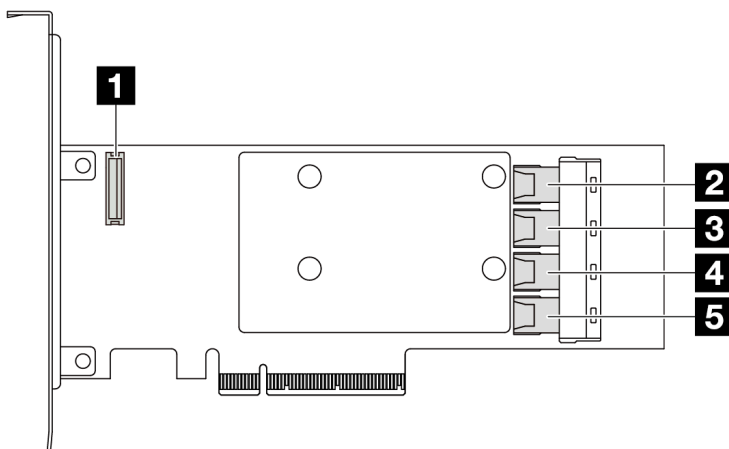

Figure 317. A Gen 3 16i SFF RAID/HBA adapter (four port connectors)
- Figure 317 “A Gen 3 16i SFF RAID adapter (four port connectors)” on page 341